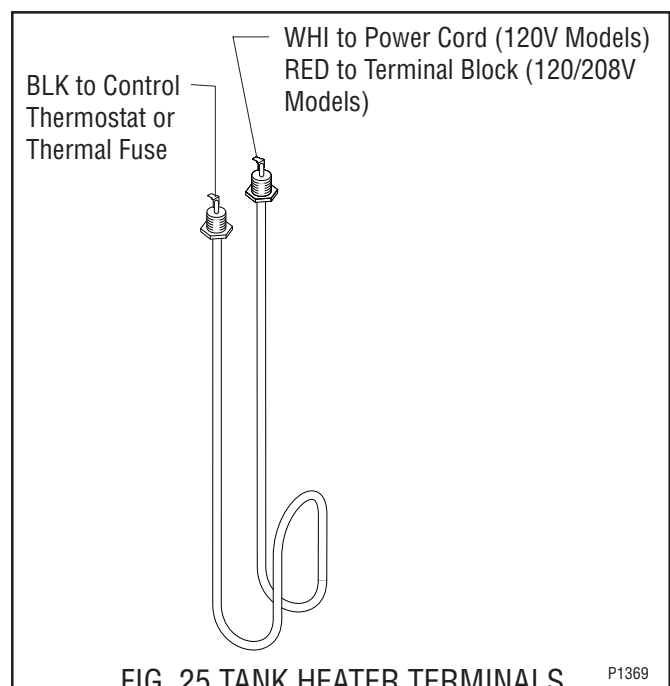

FIG. 25 TANK HEATER TERMINALS
13. Refer to Fig.25 when reconnecting the tank heater wires.